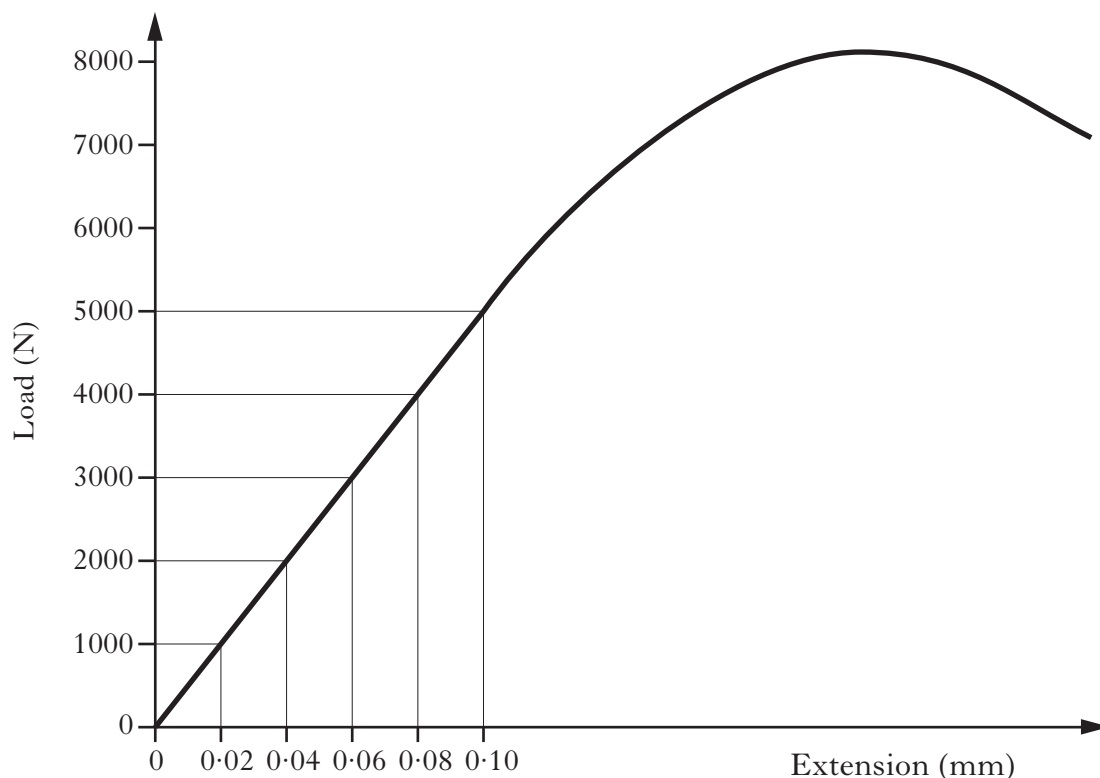

Figure Q2
2. A load-extension graph for a standard test specimen is shown in Figure Q2. The specimen is 200 mm long and 11.3 mm in diameter.
- (c) Sketch the graph shown in Figure Q2, and on it show the yield point, the ultimate load, the plastic range and the elastic range. 4